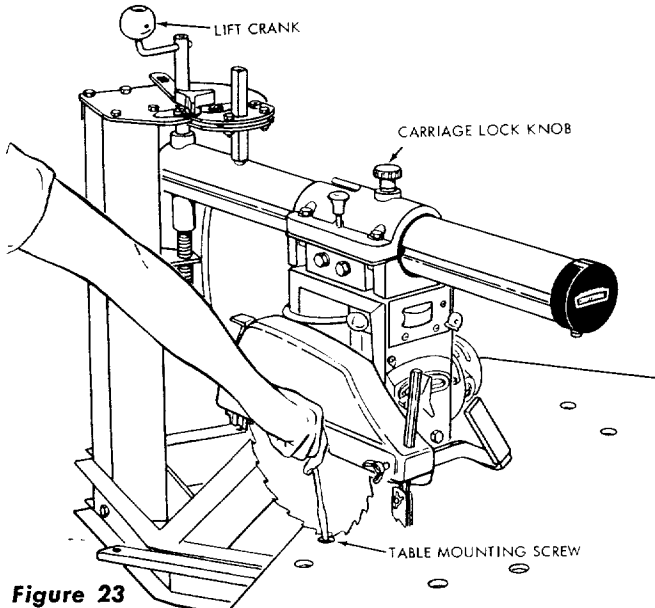

Figure 23
- c. Position the radial arm and carriage on the arm to place the saw blade adjacent to the left rear table screw. (See figure 23.)
- d. Spin the blade by hand and rotate the left-rear table screw (figure 23) until the same "pinging" sound is evident.